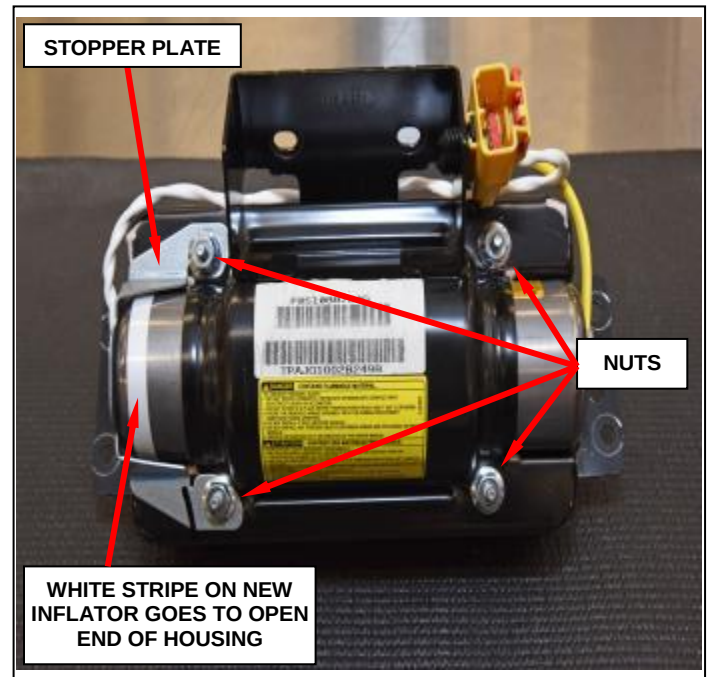

Figure 105 – Stopper Plate and Nuts
- o. Position the stopper plate to the airbag housing (Figure 105).
- p. Install the four **NEW** mounting nuts to the airbag housing and tighten to 53 in. lbs. (6 N·m) (Figure 105).